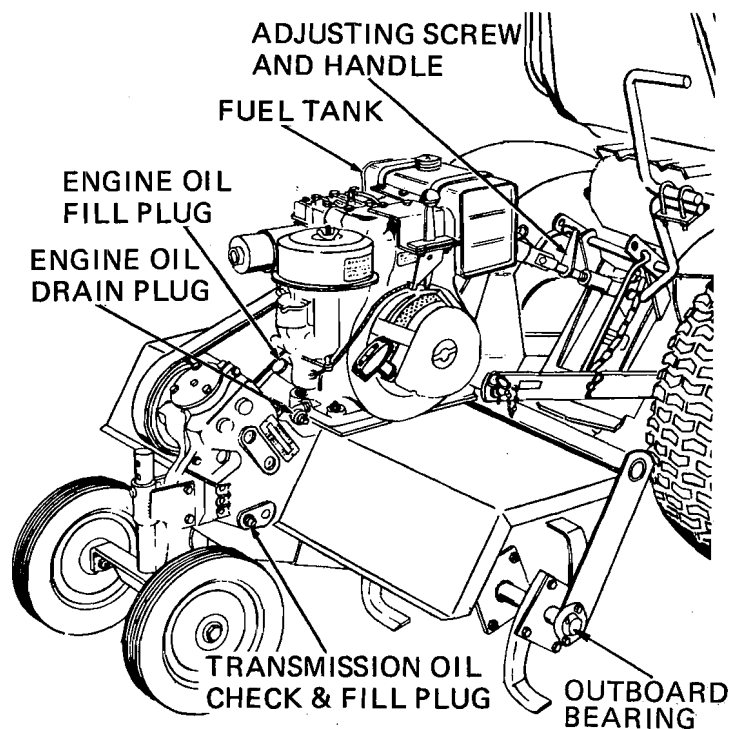

FIG. 7
4. **IMPORTANT:** Check oil level in transmission and fill to level of oil filler plug, if necessary. Use S.A.E. 30 motor oil MS, SC, SD or SE. To fill the transmission, use a small-flexible neck funnel. Refer to Figure 7 for location of filler plug.
5. Fill engine crankcase to overflowing with S.A.E. 30 oil, API rating MS, SC, SD or SE. Because of recent changes in the classifications, the oil container may show one or a combination of these recommended classifications. Capacity: About 2 $\frac{3}{4}$ pints. Refer to Figure 7 for location of engine fill plug.
NOTE: There are two (2) grease fittings on your Spader. One at each outboard bearing. Use Multipurpose Pressure Gun Grease. Fill until grease comes out the inner end of bearings. Grease every eight (8) hours. Figure 7, page 5.
NOTE: Each hole will raise or lower gauge wheels 1 inch. Spader can be levelled if necessary by turning adjusting screw and handle, shown in Figure 7. The adjusting screw and handle also control tilling depth. Shortening adjusting screw will increase tilling depth, and lengthening adjusting screw will decrease tilling depth. However, try to keep Spader level at all times.
operation). Remove fill plug (refer to Figure 7), located at R.H. side of transmission. Oil level must be even with bottom of plug. Add oil, if necessary. Use S.A.E. 30 motor oil for service, MS or equivalent. Replace fill plug.
1. There are two (2) grease fittings on your Spader. One at each outboard bearing. Use Multipurpose Pressure Gun Grease. Fill until grease comes out the inner end of bearings. Grease every eight (8) hours. (Page 5, Fig. 7)